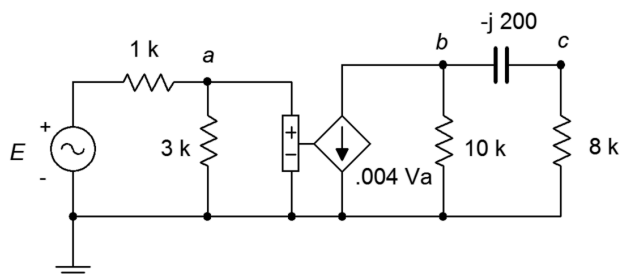

Figure 5.18
35. In the circuit of Figure 5.18, determine v_c if the source $E = 8\angle 90^\circ$.
36. In the circuit of Figure 5.18, determine the capacitor current if the source $E = 12\angle 0^\circ$.